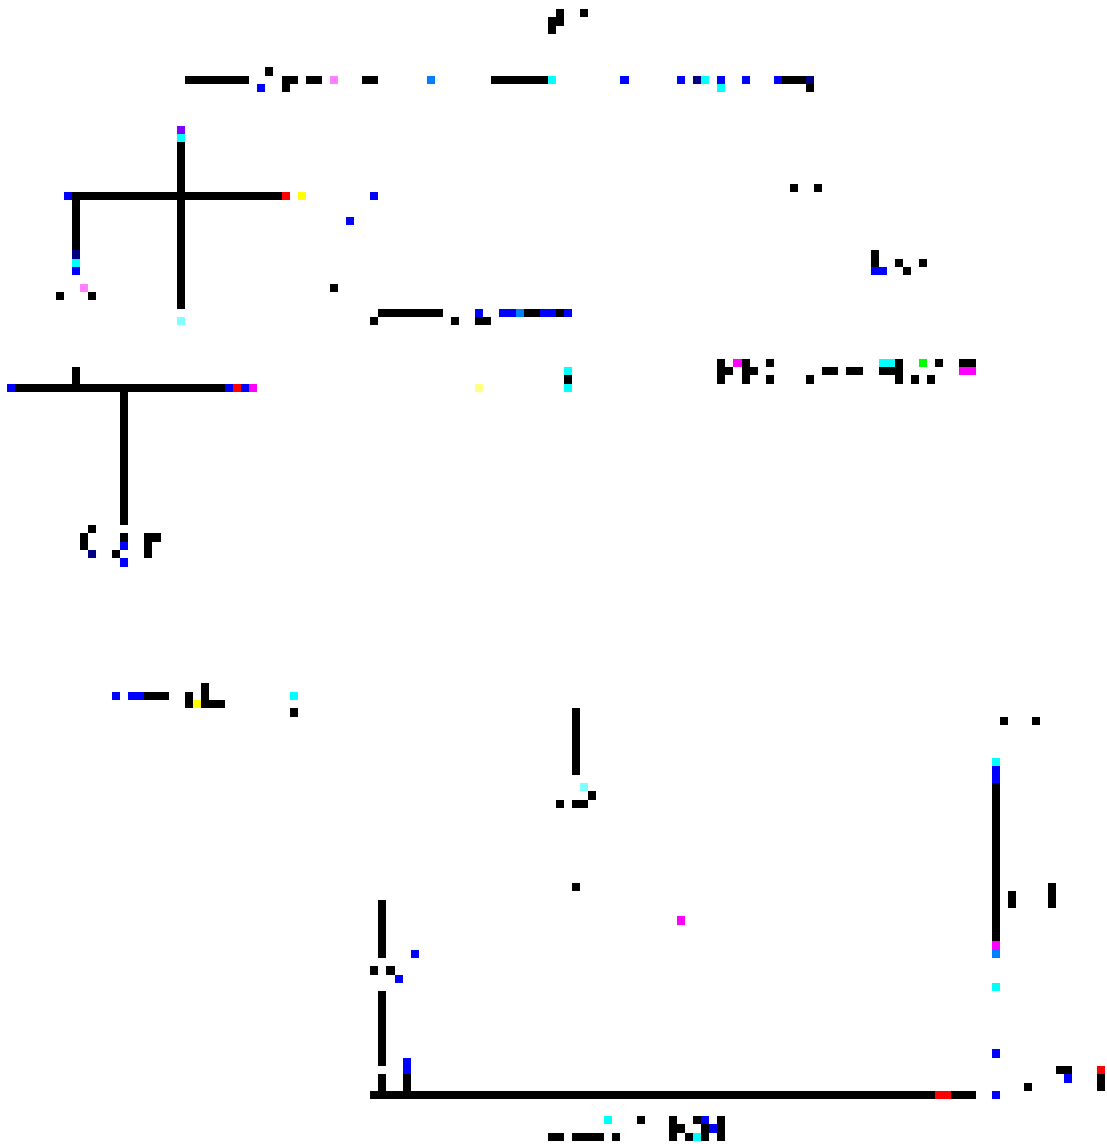

Fig. No. 2
11. a) Draw a one point perspective view (Fig. no. 2) to a scale 1:100 or suitable. Eye level is positioned at 1.8 m above ground level.